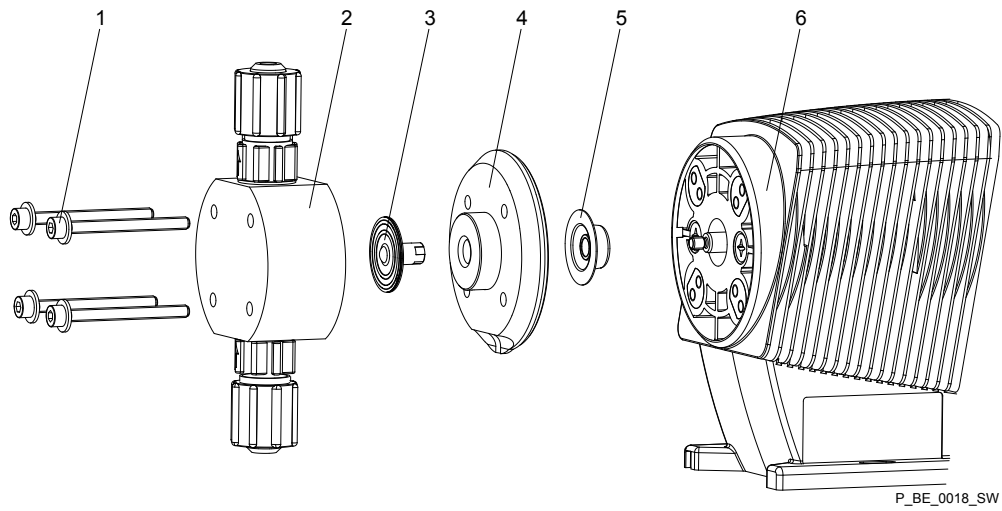

Fig. 18: Partial exploded view of liquid end
16. ▶ Unscrew the diaphragm (3) again.
17. ▶ Place the backplate (4) onto the pump housing (6).
- The leakage hole must point downwards when the pump is installed later - please refer to Fig. 18!
- Place the backplate (4) immediately into the correct position on the pump housing (6)! Do not twist the backplate on the pump housing so that the safety diaphragm (5) becomes warped!
- 18.** Place the diaphragm (3) into the backplate (4).
- Do not overtighten the diaphragm (3) in the following step!
- The backplate (4) must remain in its position so that the safety diaphragm does not become warped!
- 19.** Hold the backplate (4) firmly and screw the diaphragm (3) in a clockwise direction until it is sitting tightly (the twisting resistance of the return spring can be felt).
- 21.** Place the dosing head (2) with the screws (1) onto the diaphragm (3) and the backplate (4) - the suction connector must be pointing downwards when the pump is later installed.
- 22.** Gently tighten the screws (1) and then tighten in a diagonal pattern. See below for tightening torque.